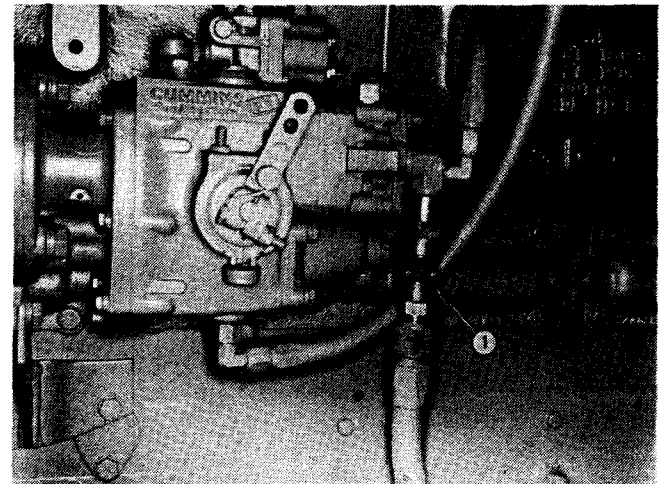

Fig. 2-2, (N11964). Checking air leaks with ST-998 Sight Gauge
2. If there are indications of air leaks on suction side of fuel pump, check for air leaks by placing ST-998 Sight Gauge (1, Fig. 2-2) in the line between fuel filter(s) and pump. Bubbles or "milky" appearance indicates an air leak. Find and correct.